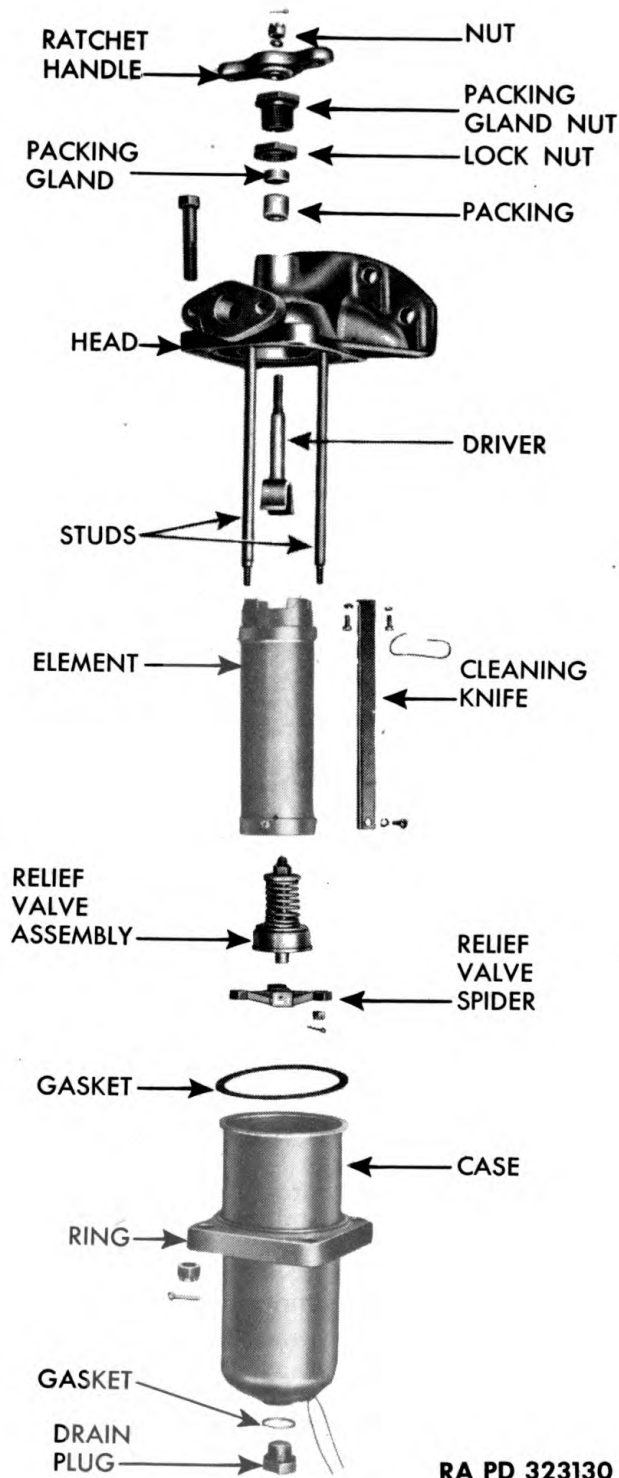

Figure 131 — Transmission Oil Filter Disassembled
a. **Remove Case** (fig. 131). Remove four cotter pins and nuts from cap screws attaching ring to filter head and remove case, ring, gasket, and four cap screws.
d. **Remove Driver** (fig. 131). Remove cotter pin and nut from top end of driver. Unscrew ratchet handle from driver. Loosen lock nut on packing gland nut, and turn packing gland nut out until it is loose. Pull driver out from below head.
e. **Remove Packing** (fig. 131). Remove packing gland nut and lock nut, and pull packing gland and packing out of filter head with aid of a hooked tool.
b. Install Driver and Packing (fig. 131). Insert driver through hole in head. Place packing on driver, and push it into tapped hole in head. Place packing gland on top of packing with countersunk side against packing. Install packing gland nut and lock nut into head. Tighten lock nut when gland nut is snug on packing. Screw ratchet handle onto driver, and lock in place with nut and cotter pin.
e. Install Case (fig. 131). Place gasket, case, and ring in place below filter head. Install four attaching cap screws, nuts, and cotter pins. Use new gasket if necessary.